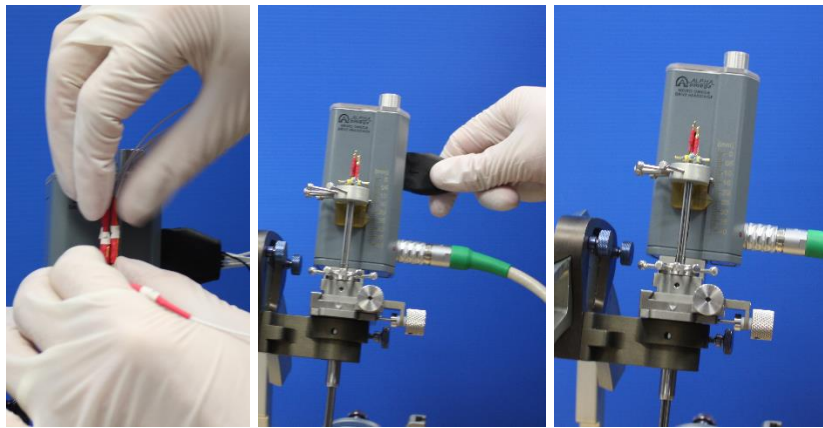

Figure 106: Disconnecting the Electrodes
1. Move the recording electrode to the exact depth in which you have determined to implant the DBS electrode, and then disconnect the electrode connections (*Figure 106*).